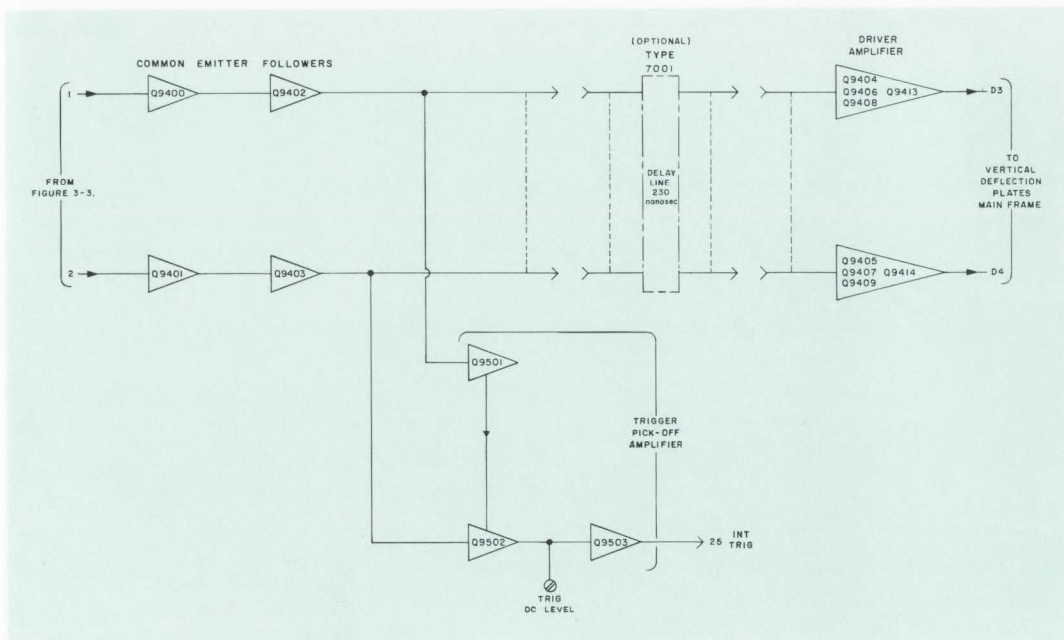

Figure 3-4.
- Figure 3-4. Type 76-02A Y Deflection Amplifier, Functional Block Diagram
### 3-4. COMMON DEFLECTION AMPLIFIER (Figure 3-4)